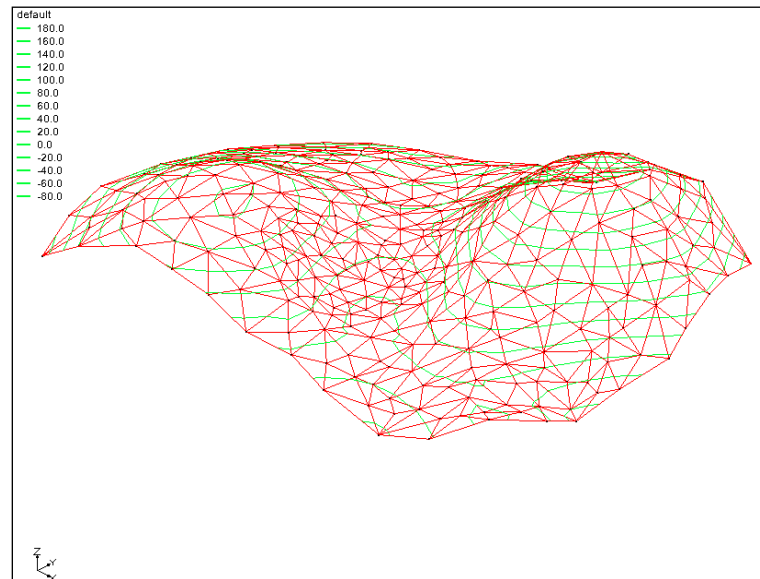

Figure 6 The Graphics Window after the Display Options have been reset
8. Click **OK** to exit the *Display Options* dialog. The Graphics Window should appear as in Figure 6.